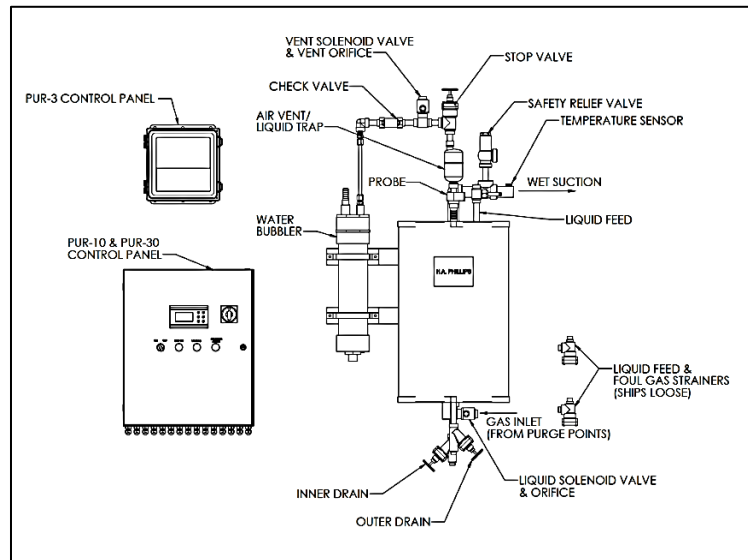

Figure 12: Major Components
The Phillips purger is typically provided with the following items shipped loose (see Figure 12):
Install the vent Sub-Assembly, Liquid Trap, Temperature sensors, Strainers, and Safety Relief Valve in the locations indicated in Figure 12.
1. Close the vent stop valve. (Refer to Figure 12)